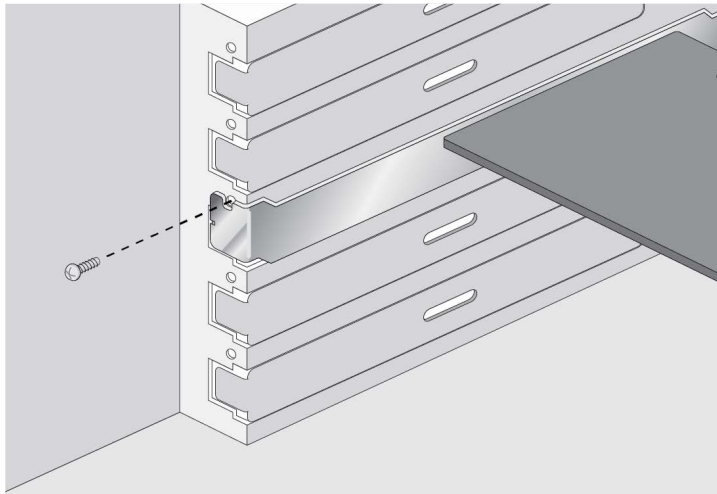

Figure 15. Securing the Adapter Card
7. Secure the network adapter card to the chassis with a Phillips-head screw (not provided) as shown in Figure 15 on page 33.